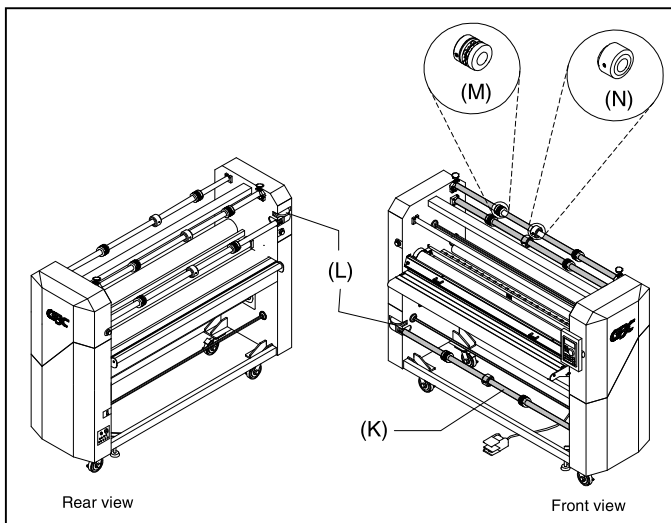

Fig. 16
K. FILM SHAFT: (Figure 16) The film shaft holds the film supply on the machine.
L. FILM SHAFT BRAKE: (Figure 16) Used to apply resistance to the film shaft. One for the primary upper unwind and one for the lower unwind.
M. CORE ADAPTORS: (Figure 16) Hold and lock the rolls of film on the shafts to prevent side to side shifting.
N. CENTER CORE SUPPORT: (Figure 16) Supports the center of the film cores when placed onto the unwind shafts.